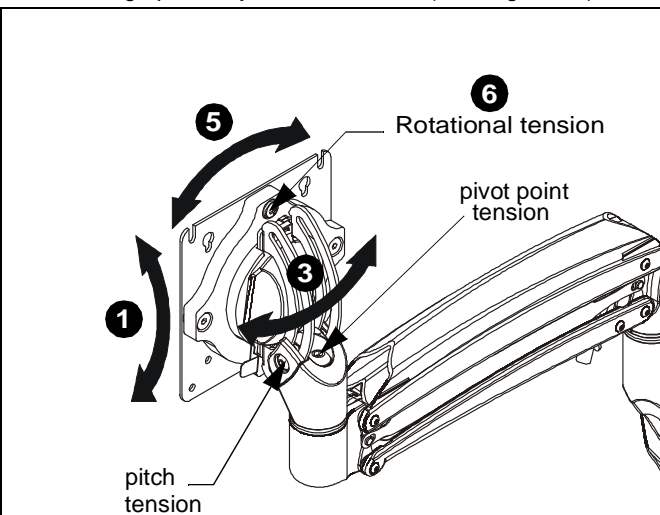

Figure 10
1. Adjust pitch to desired tilt position. (See Figure 10)
2. Adjust pitch tension screw to change the adjustment tension. (See Figure 10)
3. Adjust pivot position as desired. (See Figure 10)
4. Use 3/16" hex key (M) to adjust pivot point tension screws to change pivot adjustment tension. (See Figure 10)
5. The monitor may be adjusted 90 degrees in either direction in order to provide a portrait view of the monitor. (See Figure 10)
6. Use 3/16" hex key (P) to adjust rotational adjustment screw to adjust rotational tension. (See Figure 10)